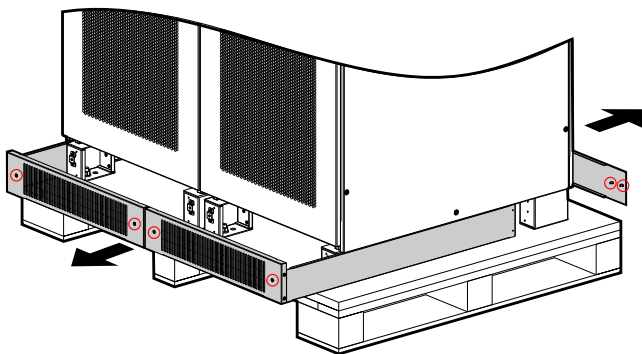

Figure3-5 Dismantle the bottom cover plate
- Step 5 If the UPS is OK, dismantle the fasten screws of front and rear cover plate at the bottom of the cabinet (as shown in Figure3-5), by Phillips screwdriver, and then remove the front and rear cover plate.